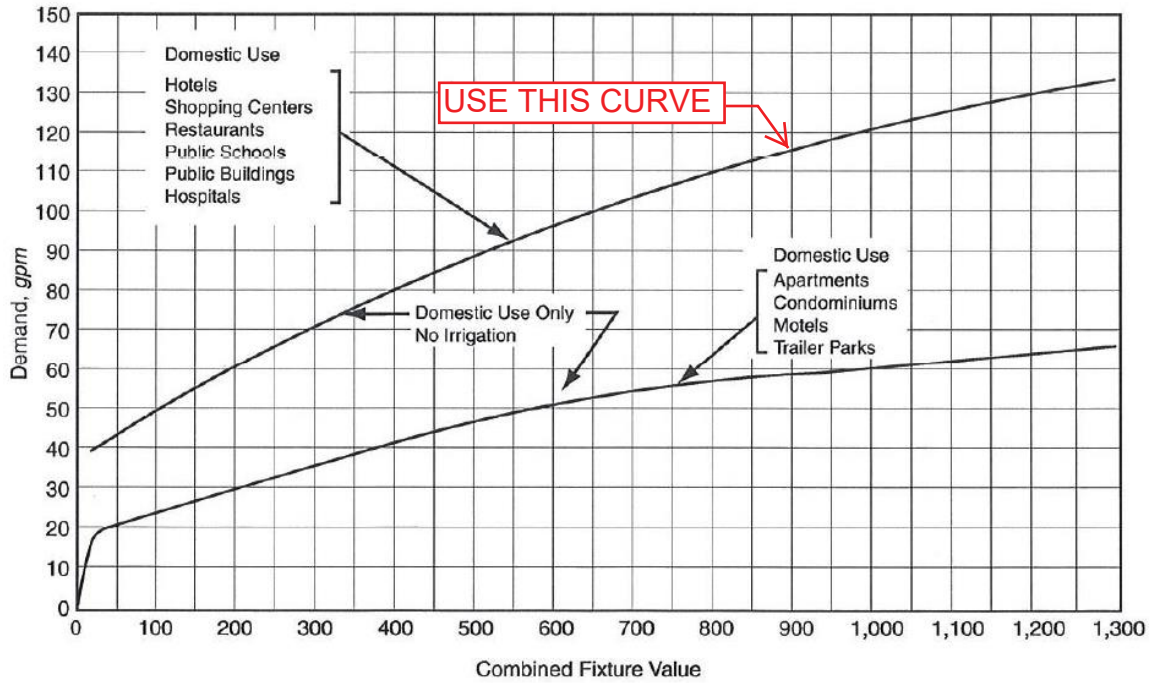

Figure 4-2 Water flow demand per fixture value—low range
- (3) **Combined Fixture Total** \_\_\_\_\_ FU
- (4) **Peak Demand** (using top curve in Figure 4-2 or 4-3) \_\_\_\_\_ gpm
- (5) **Pressure Factor** (70 psi typical) 1.09 x \_\_\_\_\_ = \_\_\_\_\_ gpm
- (6) **Irrigation Demand** (if applicable) \_\_\_\_\_ gpm
- (7) **Miscellaneous Demand** \_\_\_\_\_ gpm
- (8) **TOTAL FIXED DEMAND** \_\_\_\_\_ gpm
- (1) **No. of Fixtures:** Input the total number of fixtures corresponding to each Fixture Type.
- (2) **Total Fixture Value:** For each Fixture Type, multiply the corresponding Fixture Value at 60 psi by (1) No. of Fixtures.
- (3) **Combined Fixture Total:** Sum (2) Total Fixture Value for each Fixture Type.
- (4) **Peak Demand:** use (3) Combined Fixture Total and the upper curve on AWWA M22 Figure 4.2 or 4.3 to determine Peak Demand. The District mandates the use of the upper figure curves for all Domestic Uses.
- (5) **Pressure Factor:** Adjust for pressure by multiplying 1.09 by (4) Peak Demand.
- (6) **Irrigation Demand:** The Irrigation Demand is 0 if a separate irrigation tap and meter are provided; otherwise include an irrigation demand equal to the demand of the largest irrigation zone.
- (7) **Miscellaneous Demand:** Include any applicable miscellaneous demands not accounted for that would impact the net demand such as car wash, chiller, fountain, or other uses.
- (8) **Total Fixed Demand:** Calculate the TFD by summing columns 5-7.
- (9) **Proposed Domestic Tap/Meter Size:** Fill in the appropriate domestic Meter Size based on the Maximum Allowable Total Fixed Demand in Table IV-7.
- (10) **Proposed Irrigation Tap/Meter Size:** Fill in the appropriate irrigation Meter Size based on the proposed irrigation demands and Maximum Allowable Total Fixed Demand in Table IV-7.
- (11) **Other:** Fill in and label any other applicable meters such as a secondary irrigation or car wash tap and meter.
*Attachment: AWWA M22 Figures 4.2 and 4.3*
# WATER TAP AND METER SIZING – Figures 4-2 and 4-3